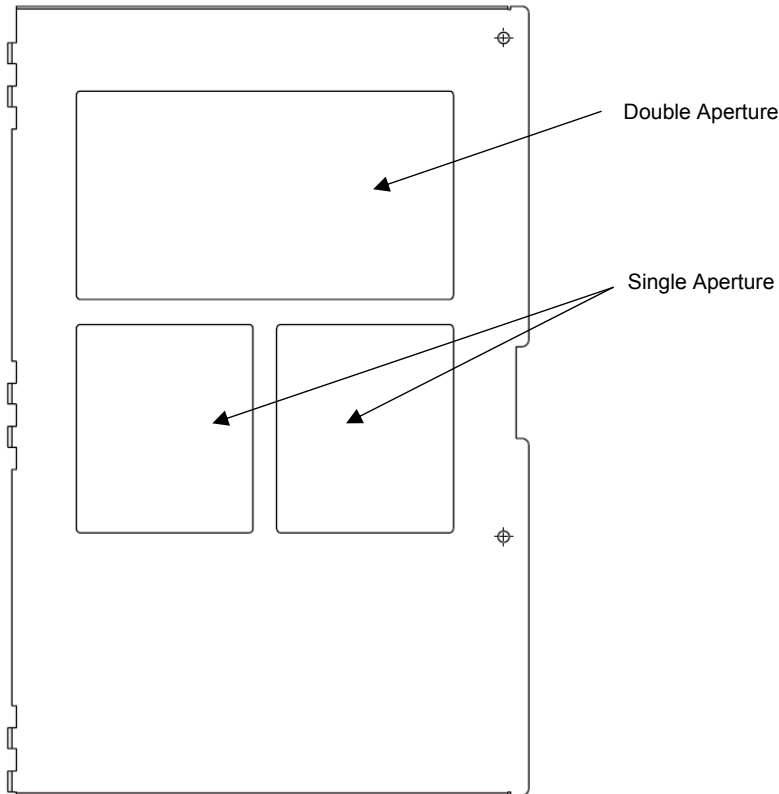

Figure 2 – AX-01-ID1 Inner Door
The Axis^{AX} Intelligent Fire Alarm Control Panel inner door supports one (1) double aperture module and two (2) optional single aperture modules. The inner door is preassembled with; one AX-DSP alphanumeric graphic display, in the double aperture location and two AX-SAPs single aperture plates, in the single aperture locations (see figure 2).